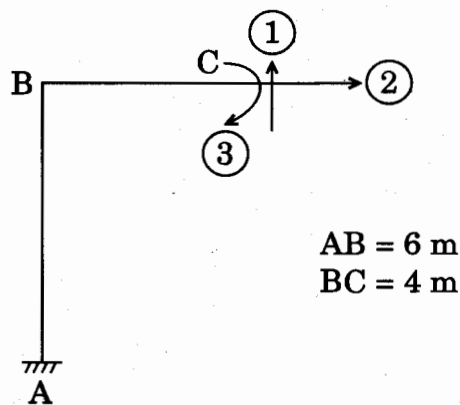

Figure 5
- Q3.** (a) Develop the flexibility matrix for the beam shown in Figure 5, with respect to the generalized coordinates mentioned. EI is constant for all members.